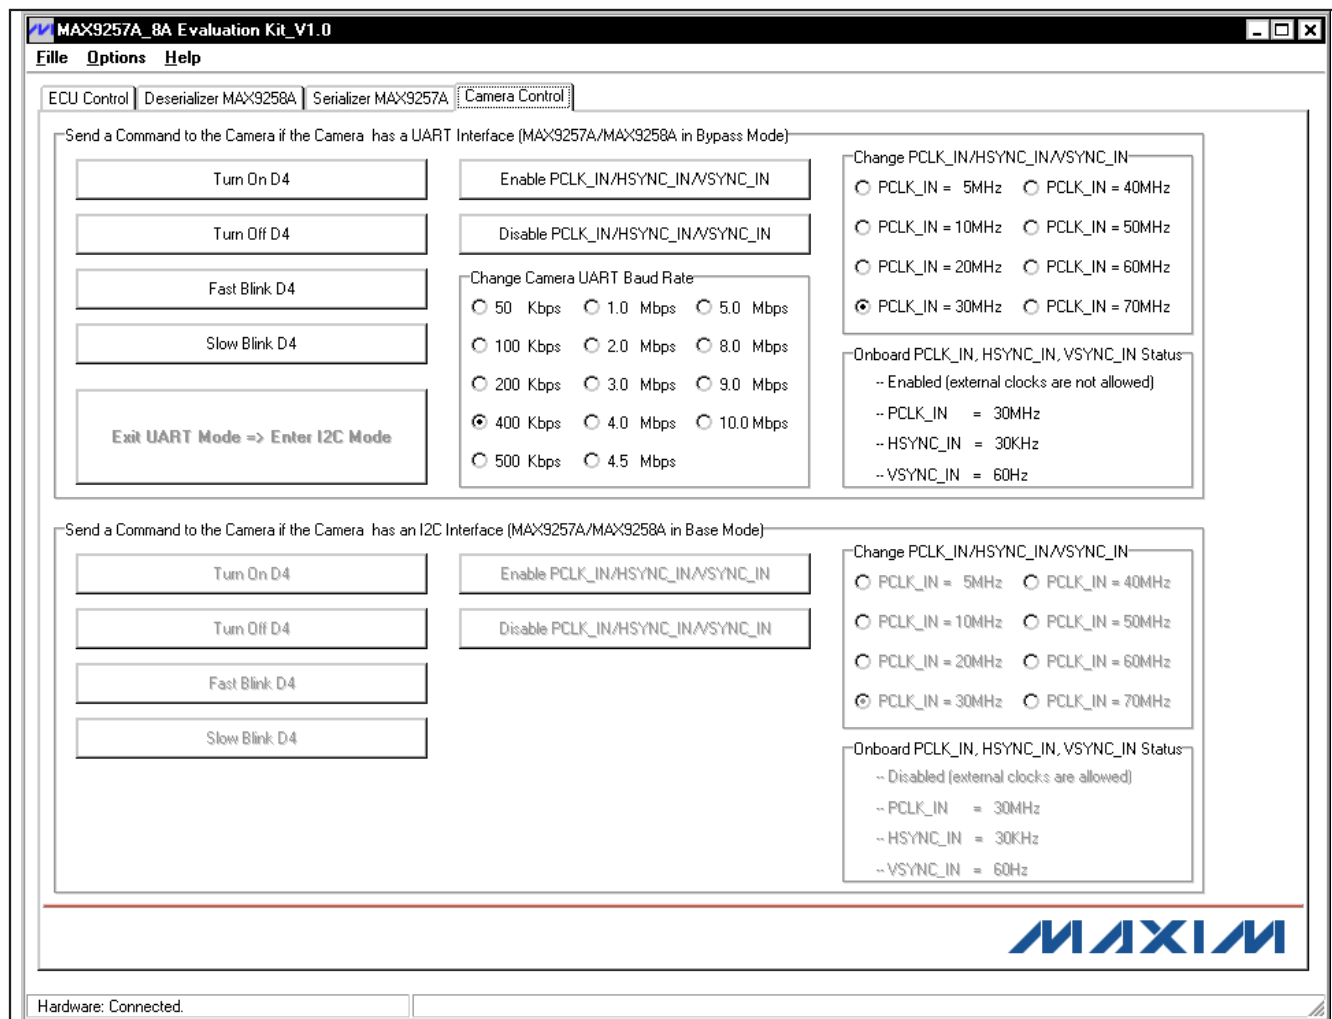

Figure 6. MAX9257A/MAX9258A Evaluation Kit Software—Camera Control Tab
- 23) Click on the **Camera Control** tab to move to the **Camera Control** tab sheet (Figure 6).
On the **Camera Control** tab sheet (Figure 6), the ECU can communicate to the emulated camera during a control-channel session.
- 10) Navigate to the **Camera Control** tab sheet (Figure 6). Press the **Turn On D4**, **Turn Off D4**, **Fast Blink D4**, and **Slow Blink D4** buttons, respectively, to verify that the ECU is communicating to the camera properly.
- 11) Navigate to the **Camera Control** tab sheet (Figure 6). On this tab sheet, all ECU commands to the camera follow this order in one control-channel session:
- 6) Navigate to the **Camera Control** tab sheet (Figure 6) and press the **Exit UART Mode** → **Enter I2C Mode** button (this button is available only when CTO is not equal to 0).